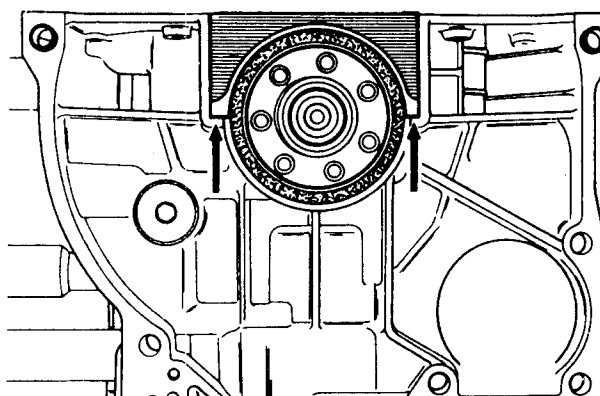

Fig.1.35 Direction to tap No.1 main bearing cap to release it
- 4 Refer to Fig.1.35 and tap the no. 1 main bearing cap in the direction indicated by the arrows.